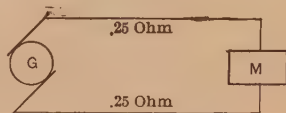

FIG. 33.
**Problem 6.** Motor  $M$  requires 20 amperes at 220 volts, in Fig. 33. The line wires have a resistance of 0.25 ohm each. What pressure must be supplied by the generator?